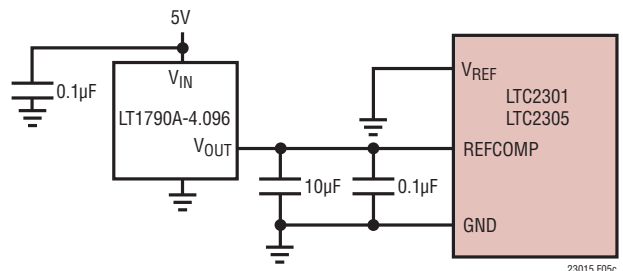

Figure 5c. Overdriving REFCOMP Using the LT1790A-4.096
**REFCOMP (Pin 8):** Reference Buffer Output. Bypass to GND with 10μF and 0.1μF ceramic capacitors in parallel. Nominal output voltage is 4.096V. The internal reference buffer driving this pin is disabled by grounding VREF, allowing REFCOMP to be overdriven by an external source (see Figure 5c).
noise performance. The internal reference buffer can also be overdriven from 1V to  $V_{DD}$  with an external reference at REFCOMP, as shown in Figure 5c. To do so,  $V_{REF}$  must be grounded to disable the reference buffer. This will result in an input range of 0V to  $V_{REFCOMP}$  in unipolar mode and  $\pm 0.5 \cdot V_{REFCOMP}$  in bipolar mode.